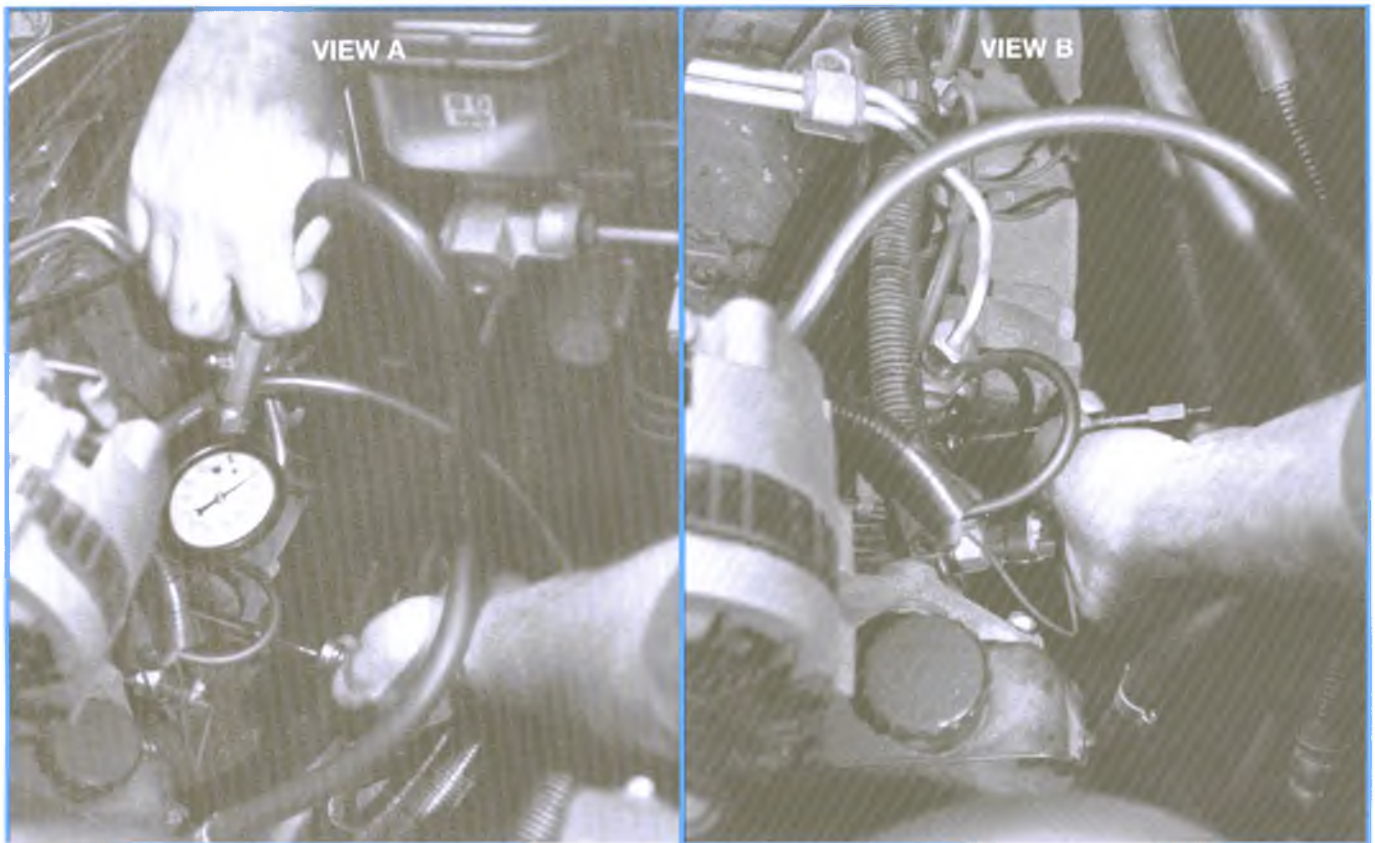

Figure 2-39, Compression Gauge Installation
4. Install compression gauge adapter J 26999-10 into the glow plug hole of the first cylinder to be tested (see Figure 2-39, view A).
5. Connect compression gauge J 26999-12 to the adapter (see Figure 2-39, view B).